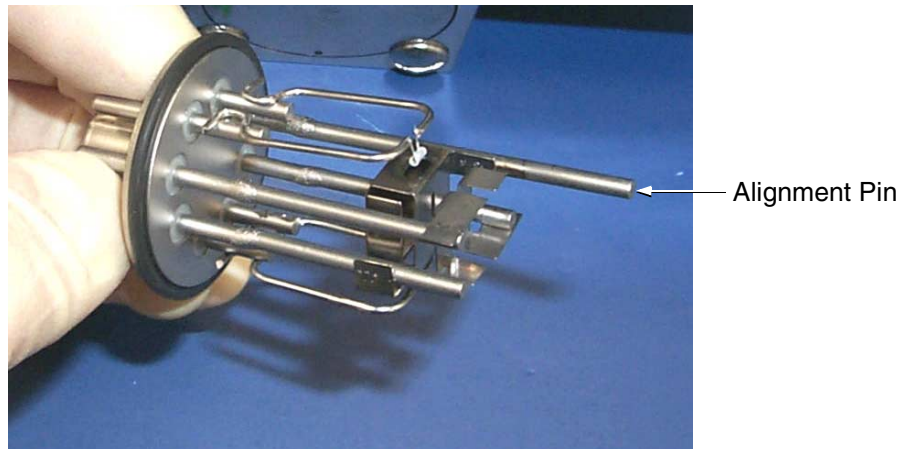

Figure 3-20 Ion Source Alignment Pin
5. Holding the ion source by the connector pins, and the O-ring if necessary, insert the ion source into the cavity so that its alignment pin falls in the center of the hole in the cavity (Figure 3-20).